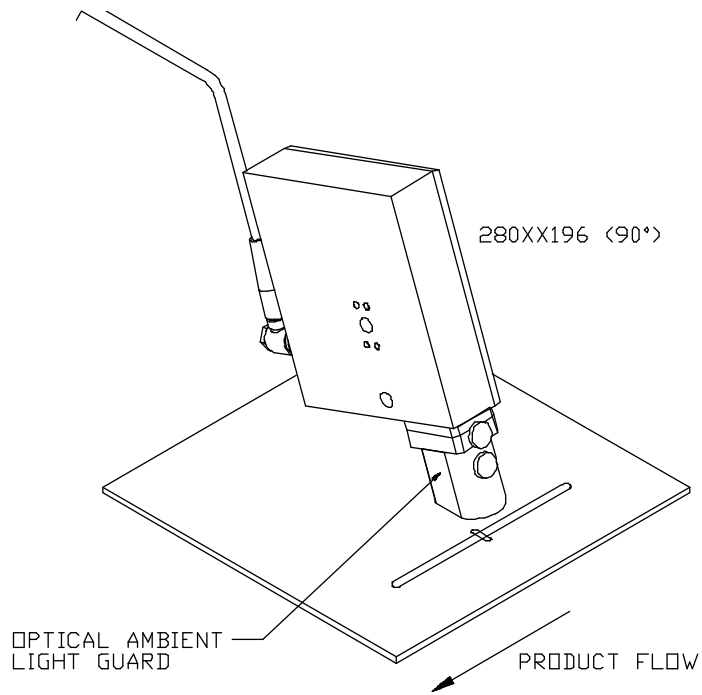

Figure 5-19. AS-601 "90°" Sensor
- AS-301/601/701 sensor (Figures 5-19 and 5-20)
- 90° sensor (280xx196) (Figure 5-19)